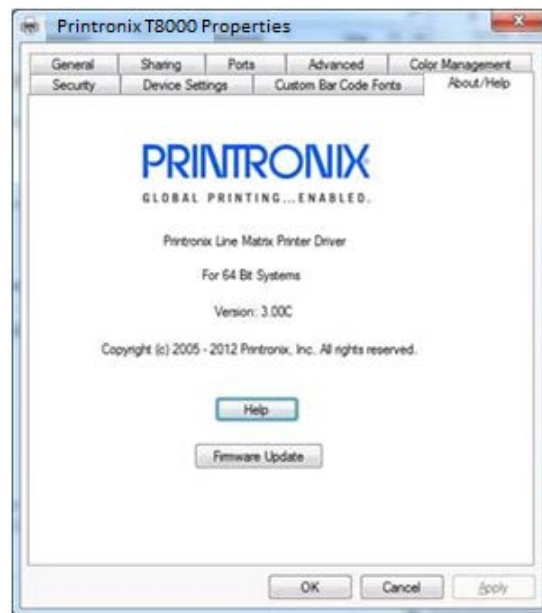

Figure 8 Updating Firmware
5. Click the **Firmware Update** button as in *Figure 8*.